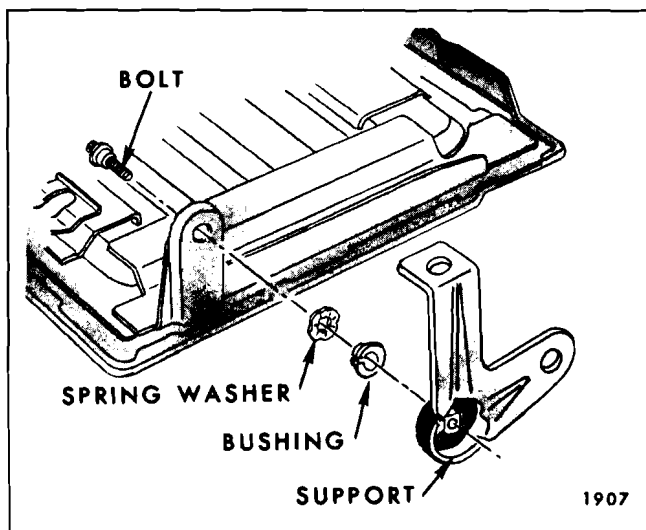

Fig. 15-73—Third Seat Cushion Panel and Support
To remove support, remove cushion from panel assembly; then remove bolt securing support to cushion (Fig. 15-73).
3. To install, reverse removal procedure. If support was removed from seat cushion panel, make sure bushing and spring washer are properly installed. (See Fig. 15-73).